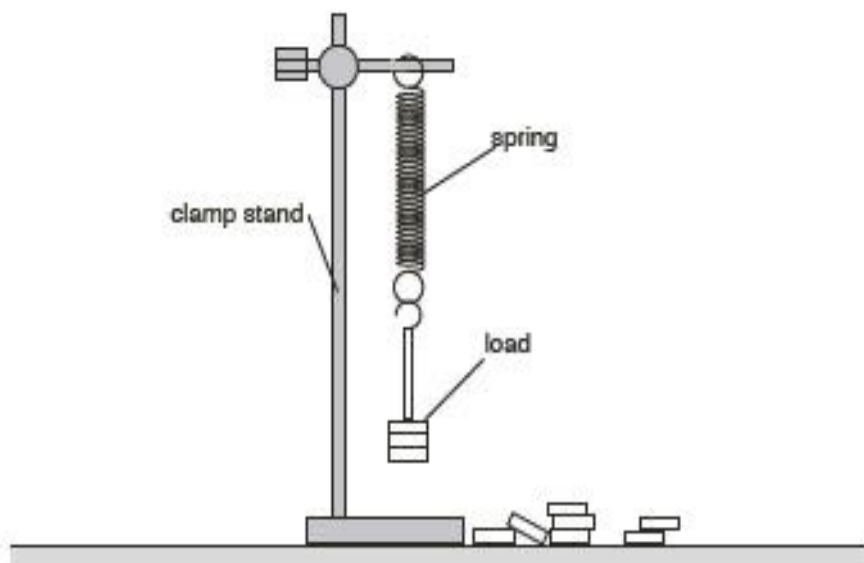

Fig. 3.1 (not to scale)
A student uses the apparatus shown in Fig. 3.1 to obtain the extension-load graph of a spring.
- (c) The student takes a second spring that is identical to the one in Fig. 3.1 and hangs it next to the first spring.